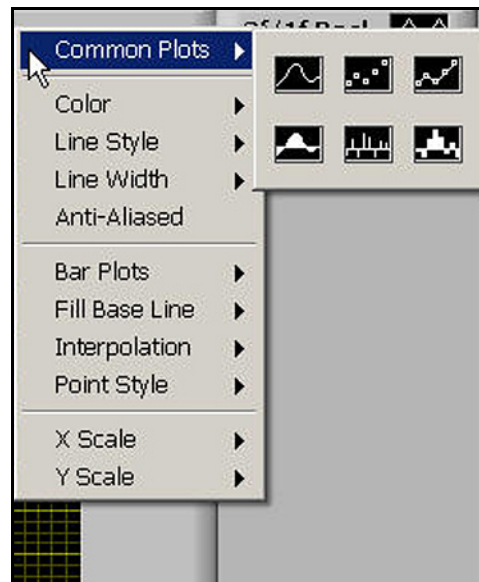

Figure 43: Options for Graphing Data
- If you right-click on any series of data within the graph, or you click on the current parameter being-trended item in the legend, you will see a variety of options for graphing data (see *Figure 43* below). You can change to a variety of common plots and adjust color, line style, and line width. For some data sets with lots of finite points, you may want to click Anti-Aliased which will smooth the plot line. You can also change bar plots, fill base line, interpolation and point style. X-Scale adjusts the x-scale. Y-Scale adjusts the y-scale and enables the secondary y-axis.